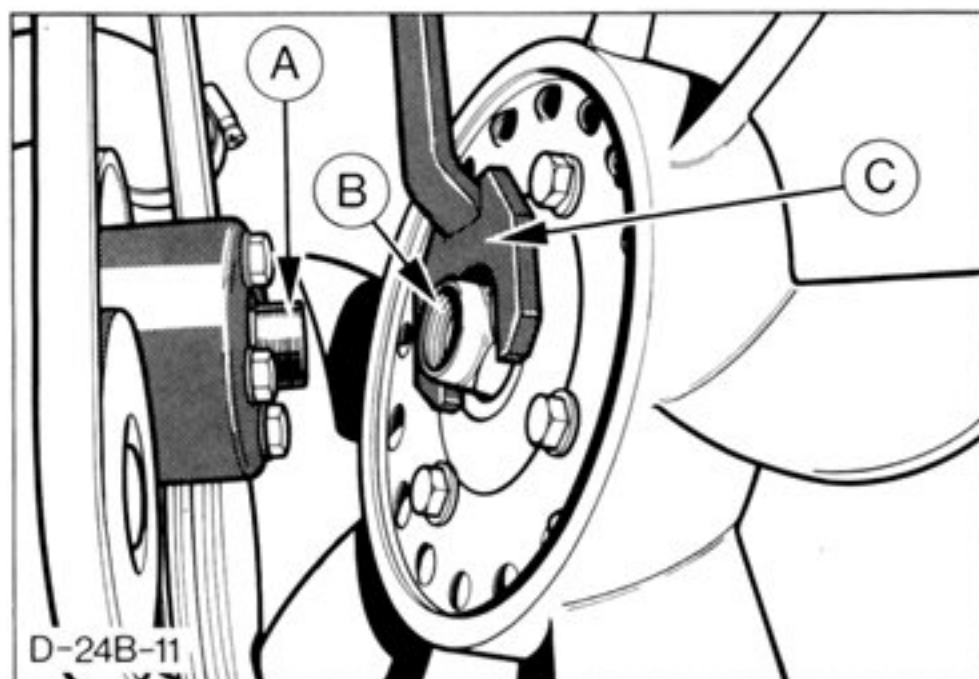

Fig.28. Viscous fan assembly installation.
15. Screw fan and clutch assembly onto pump hub and tighten nut using modified 32 mm spanner, Fig.28. It is necessary to hold the fan pulley to prevent rotation.